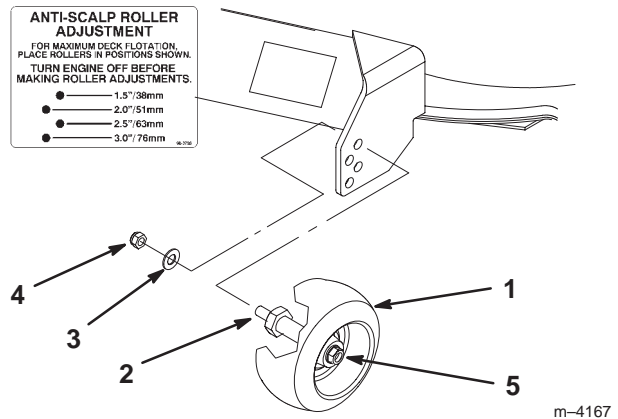

Figure 12
2. After adjusting the height-of-cut, remove the nut and washer while holding the stud with a wrench (Fig. 12).
Note: Do not remove the wheel nut and washer (Fig. 12).
3. Select a hole so that the gage wheel is positioned to the nearest corresponding height-of-cut desired (Fig. 12).
4. Install the stud nut and washer (Fig. 12).